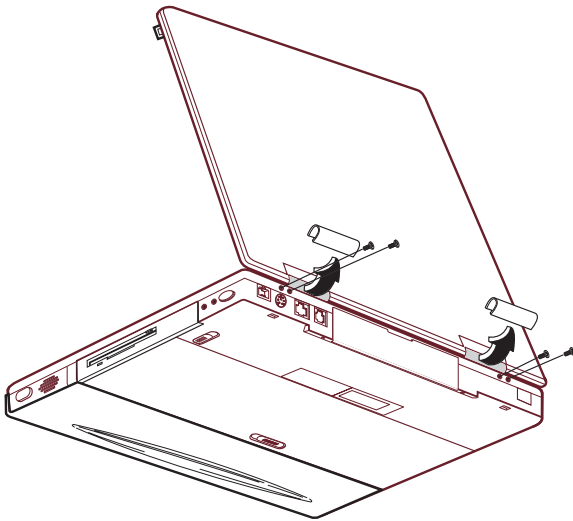

Figure 5-10. Removing Hinge Covers and Screws
7. Close the LCD Display and remove the two hinge covers (Figure 5-10). To remove the hinge covers:
8. Remove the four flat-head hinge screws (Figure 5-10).